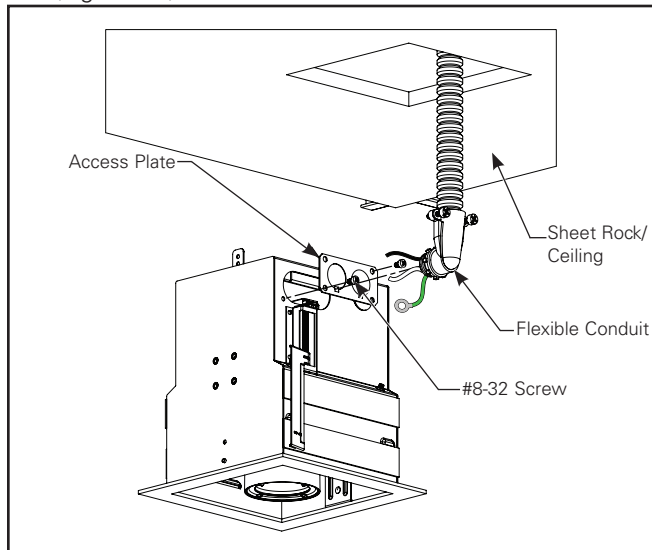

Figure 2.2.
- 2b. Draw Input wires from sheet rock ceiling cut-out. (Figure 2.2)